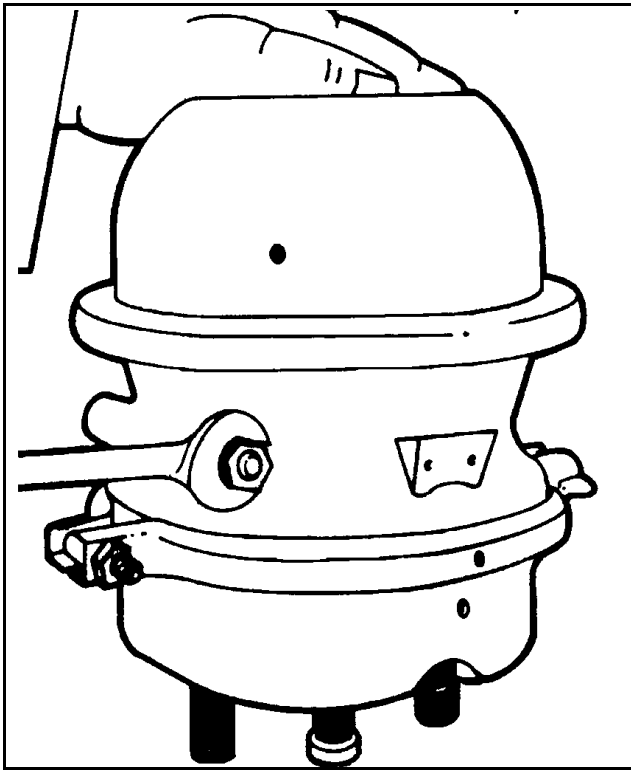
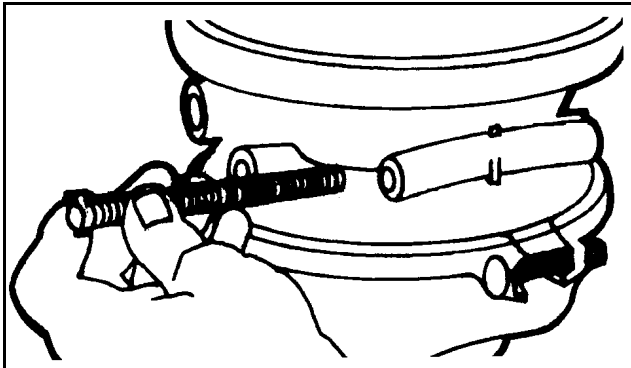

Figure 9 Release Bolt and Nut
Figure 10 Release Bolt and Storage Pocket
3. Use a 3/4-inch wrench (15/16-inch wrench for TR3036 and TR3636 models). Loosen the release nut (Figure 9(See Figure 9, page 8)) and remove the nut, flat washer, and release bolt from their storage pocket on side of chamber (Figure 10(See Figure 10, page 8)).
NOTE – When re-installing the release bolt, flat washer and release nut into the storage pocket, torque the nut against the flat washer to 10 ft-lbs. (14 N•m) (Figure 9(See Figure 9, page 8)).
3. Use a 3/4-inch wrench (15/16-inch wrench for TR3036 and TR3636 models). Loosen the release nut (Figure 9(See Figure 9, page 8)) and remove the nut, flat washer, and release bolt from their storage pocket on the side of the chamber (Figure 10(See Figure 10, page 8)).
10(See Figure 10, page 8)) on chamber (or in vehicle tool box if storage pocket is not present on chamber) and tighten nut (Figure 9(See Figure 9, page 8)) against flat washer to 10 ft-lbs. (14 N•m) torque.